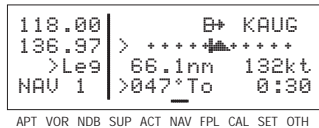
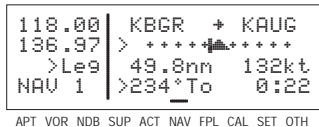
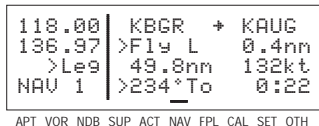

Figure 3-105
Figure 3-106
Figure 3-107
The NAV 1 page is the primary navigation display, and is shown in figure 3-105. In normal flight, you will probably want to view this page quite often. A NAV 1 page displays the following information:
Line 1: The active navigation leg. For Direct To operation this consists of the Direct To symbol, B+, followed by the active Direct To waypoint identifier (figure 3-105). For the leg of a flight plan this consists of the "from" waypoint identifier and the active "to" waypoint identifier (figure 3-106). An arrow + precedes the active waypoint identifier.
Line 2: A cyclic field which can either be (1) a course deviation indicator (CDI) that graphically displays left and right deviation from desired track (figure 3-106), or (2) The direction to fly to intercept the desired track and the crosstrack distance (figure 3-107). In either case, the same information is displayed. This is a cyclic field, so you can change back and forth from